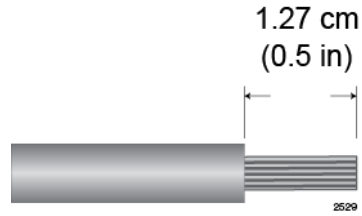

Figure 105. Stripping the Power Wires
1. Prepare adequate lengths of two stranded 8 AWG power wires by stripping them as shown in Figure 105 on page 168.